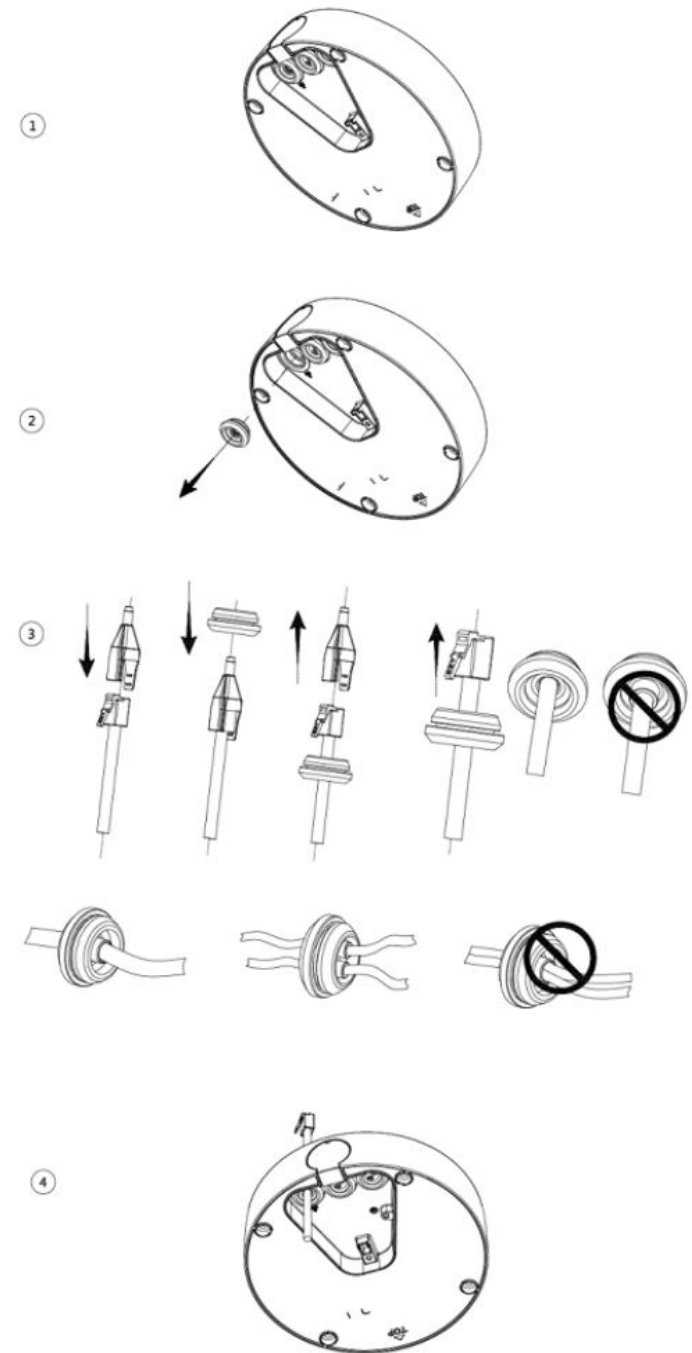

Figure 2-7
**Threading the network cable:** The camera features a waterproof plug on the base for wiring. For instruction on threading the network cable, see Figure 2-7.